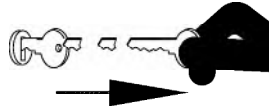

Fig. 3-17
3. Fold auger back to field rest position (Figure 3-17), making sure upper auger rest engages the field rest tube and activates the auger switch.
NOTE: Upper auger rest is factory adjusted. Bolts can be used for re-alignment of upper auger rest. See FIG. 3-17.